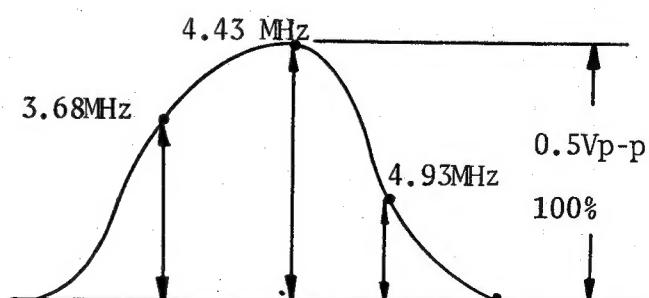

FIG.10
3. Adjust T 301 to obtain the waveform as in FIG. 10.